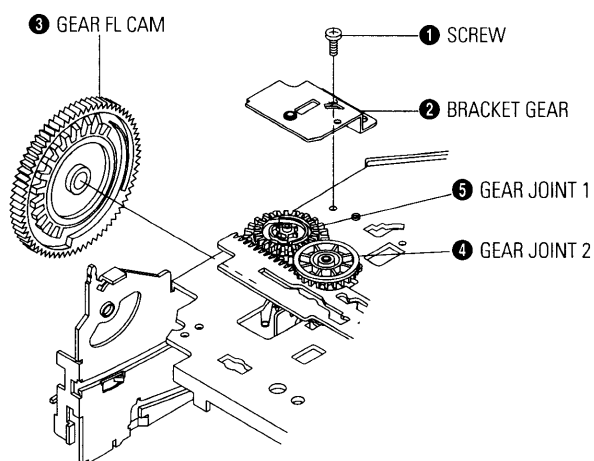

Fig. 4-14 Bracket Gear, Gear FL Cam, Gear Joint 1, 2 Removal
- 1) Release the Hook [A] in the direction of arrow and, remove the Holder Worm ❶.
- 2) Remove the Gear Worm ❷.
- 3) Remove the Gear Worm Wheel ❸. (After removing the Gear FL Cam as shown Fig. 4-14)